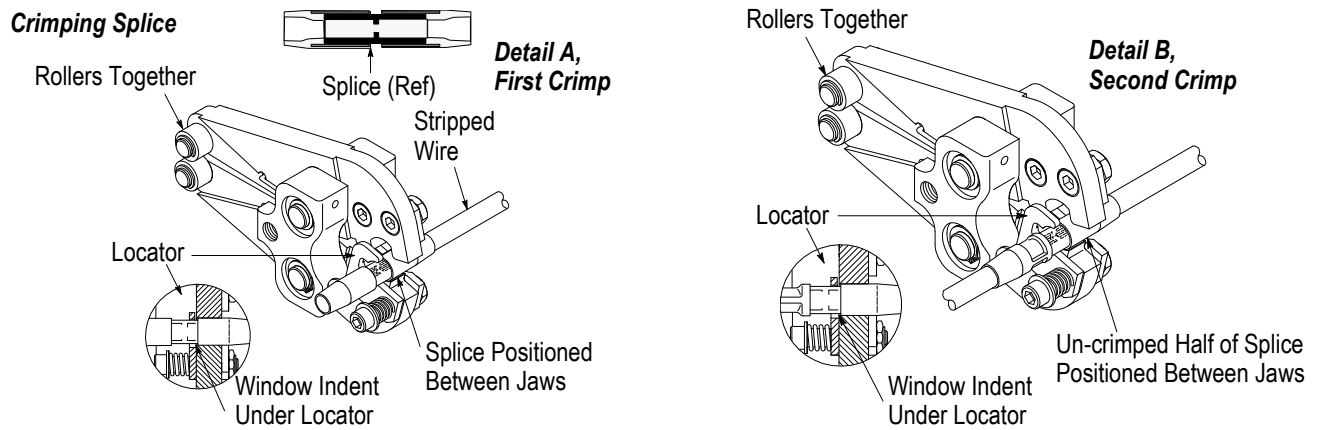

Figure 4
1. Open the jaws by squeezing the rollers together simultaneously; then position the splice between the jaws so that the window indent of the splice slides under the locator of the head. See Figure 4, Detail A.
2. Insert the stripped wire into the wire barrel until the end of the conductor is positioned against the splice wire stop. See Figure 4, Detail A.
4. To crimp the other half of the splice, position the un-crimped half in the jaws, and follow the same procedure used to crimp the first half of splice. See Figure 4, Detail B.